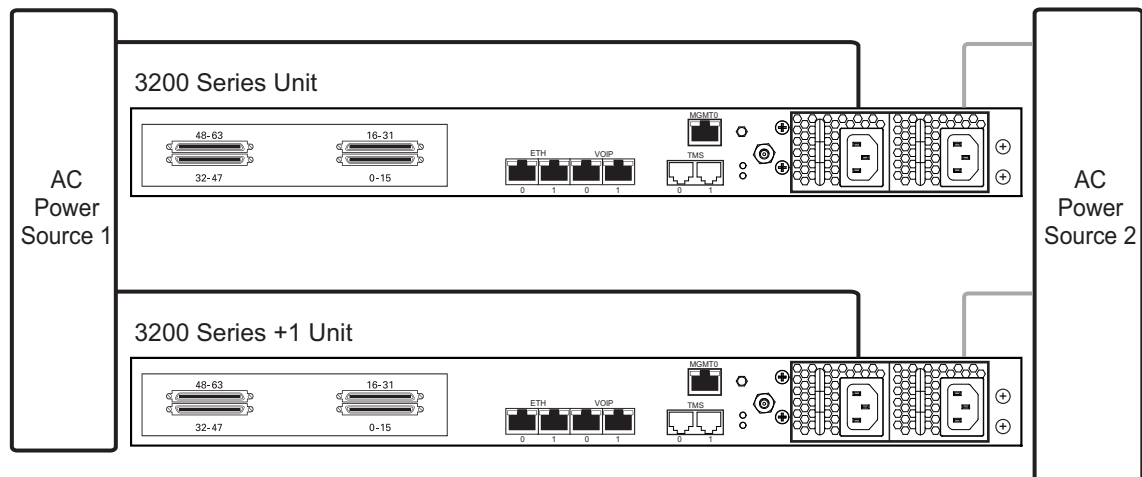

Figure 2.17 3200 Series and 3200 Series +1 AC Power Connections
1. Connect the first power connector of each unit to the first power source. See Figure 2.17.